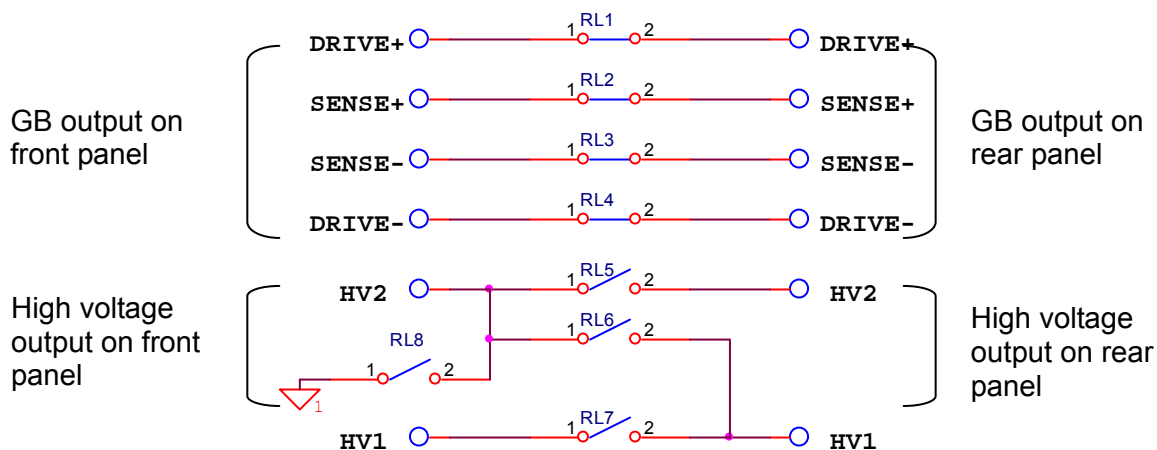

Figure 4-13
- i. When GFI setting is FLOAT under PRESET option, connection diagram of front panel and rear panel terminal is as *Figure 4-13* shown: